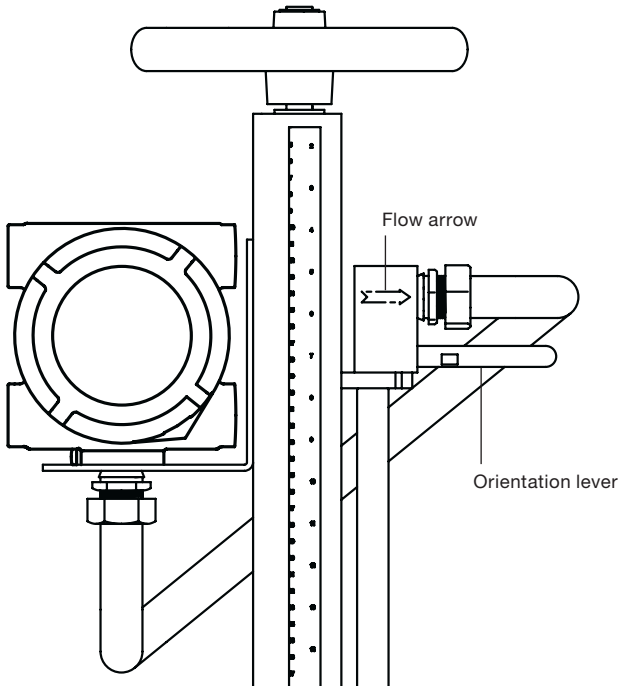

Fig. 10
- Step 1 -** Carefully insert the rotor into the pipe until the calculated scale reading on the depth scale lines up with the arrow on the retractor bar assembly. If the rotor is a 1.5" size (RIM10-600 with ASME [ANSI] Class 150 flanged connection), line up the bottom arrow on the retractor bar assembly marked 1.5 with the depth scale as shown in Figure 10.